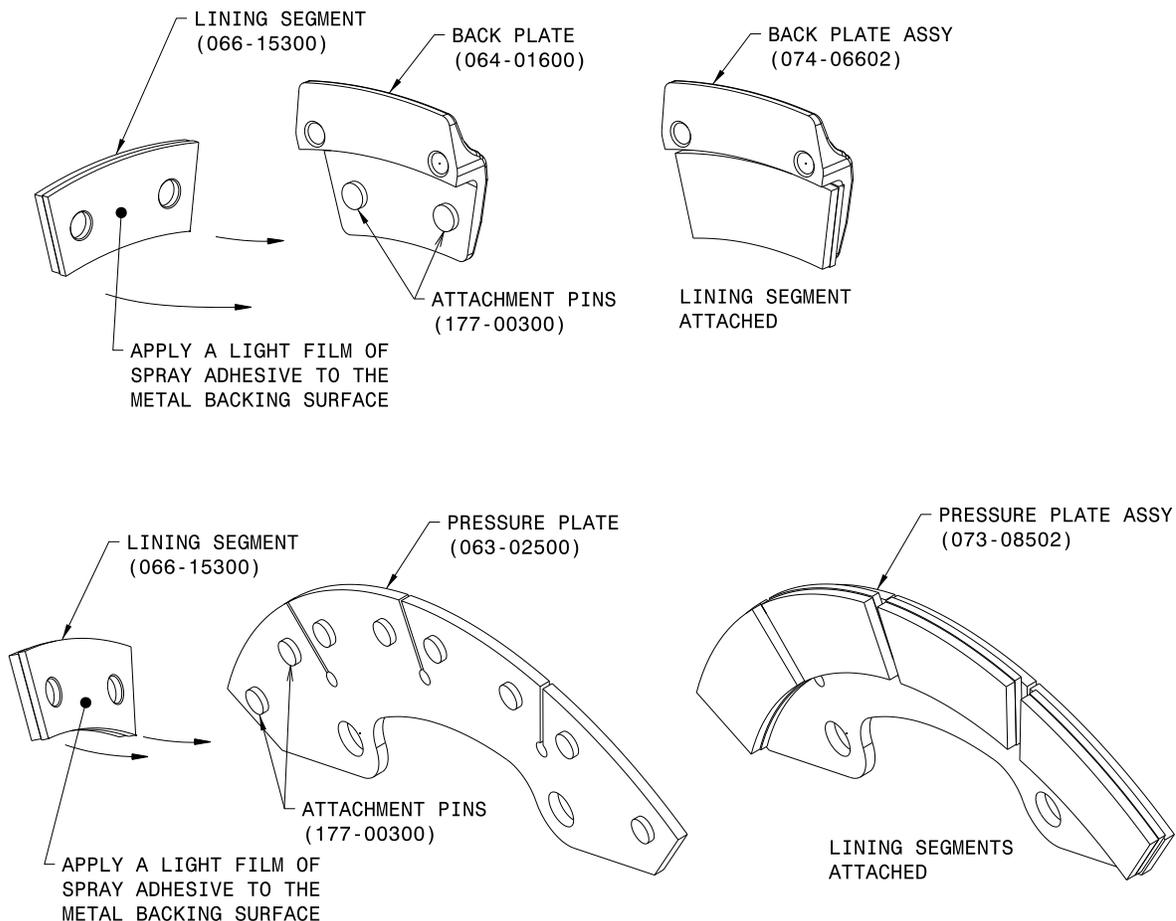

Figure 7 Attach the new lining segments (066-15300)
- (5) Install the new lining segments (066-15300). Refer to Figure 7.